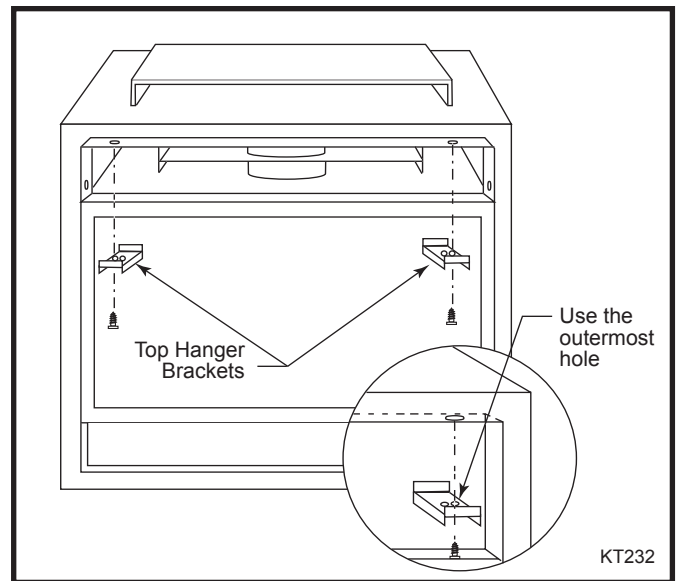

Fig. 1 Be sure that each of the steel brackets is securely attached to the fireplace frame.
2. Fasten the two top brackets at the existing holes in the upper inside lip of the firebox. Use the left hole on the left bracket and the right hole on the right bracket. (Fig. 1)